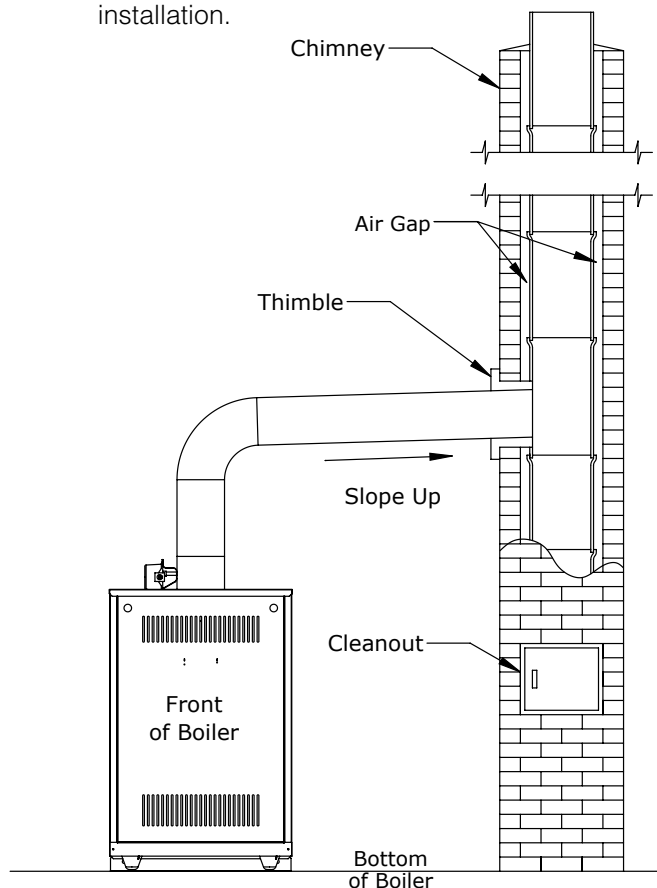

Figure 6-3: Typical Single Draft Hood Installation STMX075 through STMX299
- B. Install vent piping from vent damper outlet to chimney. See Figure 6-3 for typical vent installation.